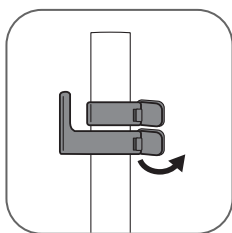

fig. 2
2. Hold the pole such that the cord holder is on the left. Check that the 2 pole clips are unlocked. (fig. 2)